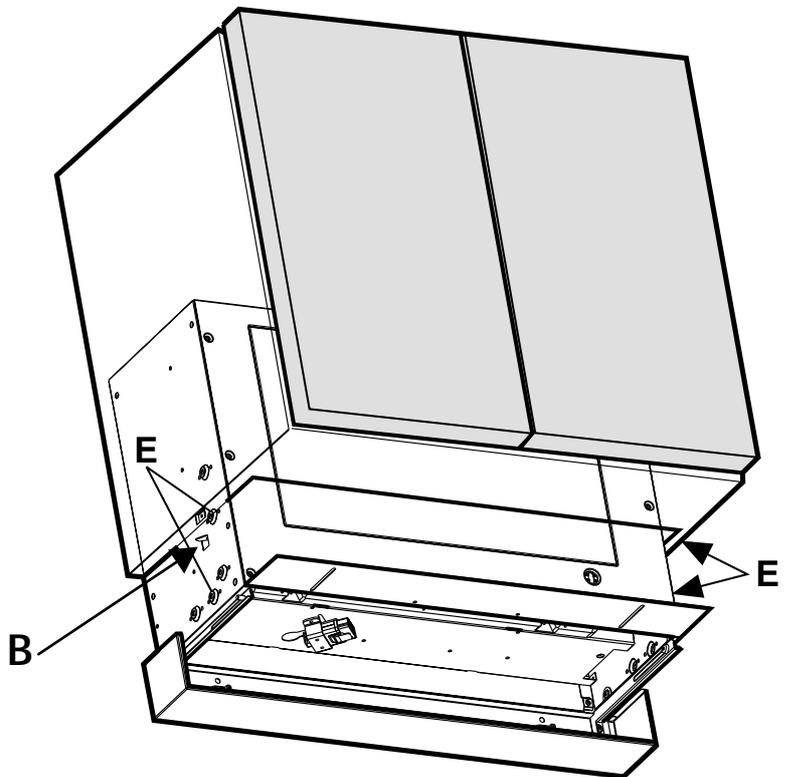
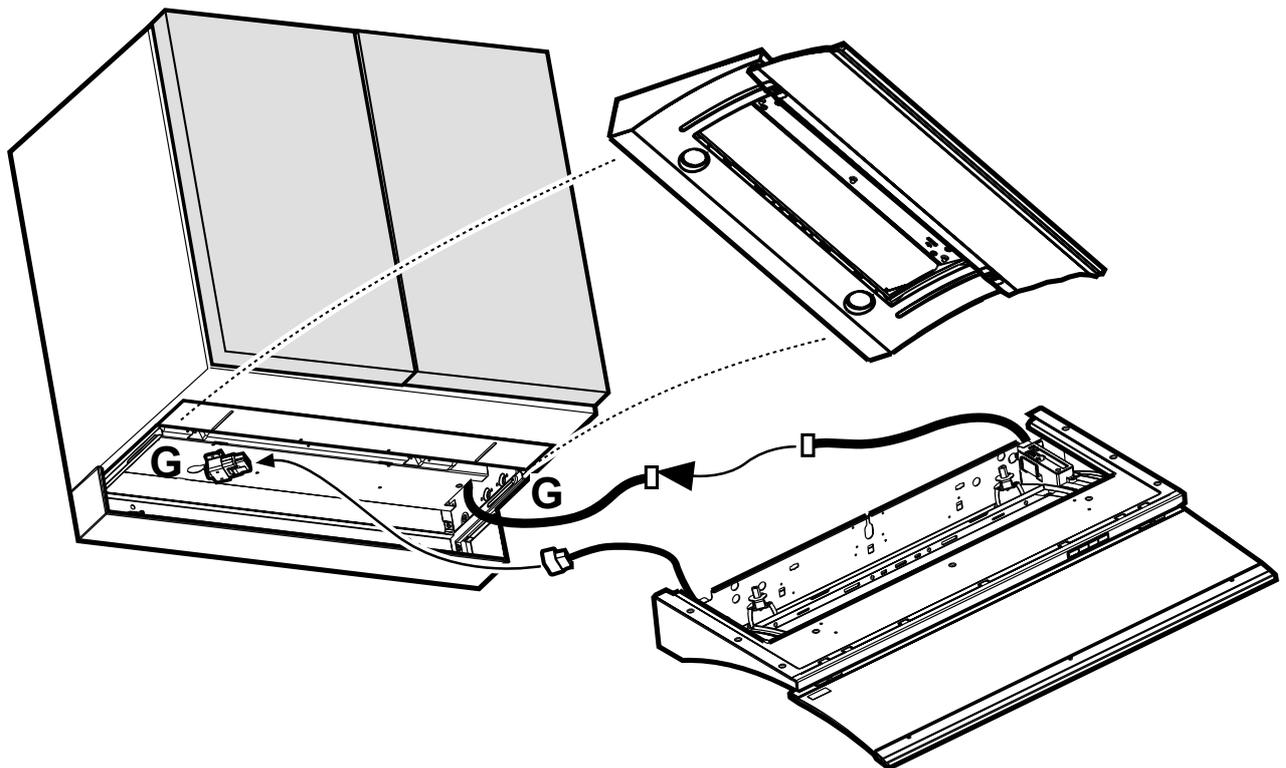

Fig. 5
Fig. 7
4. Insert cooker hood body inside the cabinet (fig. 5 & 6), this may remain temporarily in position via the side springs on cooker hood body D which are fitted into the blind Ø 5mm holes. Depress the side springs inward toward the cooker hood body using a screwdriver as a lever to insert into 5mm cabinet holes.
5. Check that the guides G (fig. 7) are perfectly parallel in respect to the lower edge of the cabinet, then affix the cooker hood casing to the sides of the cabinet using 4 screws (E - Fig. 5 – two per side), the screws should be inserted from **inside the cooker hood casing** on the cabinet in correspondence to the 4 blind Ø 2mm holes previously perforated (see operation 3).
6. Insert the cooker hood cabinet base on the bracket guides G then carry out the electrical connections of the cooker hood cabinet base to the casing (fig. 7).